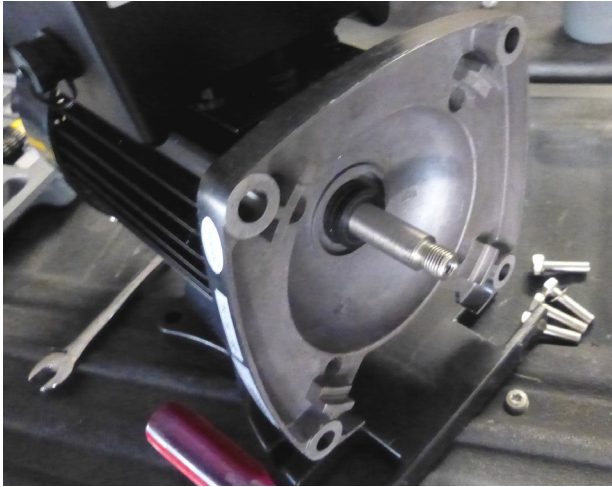

Figure 5. Shaft Seal Removal
8. Remove the remaining four bolts holding the flange/seal plate to the motor, and separate the two. See **Figure 5**.